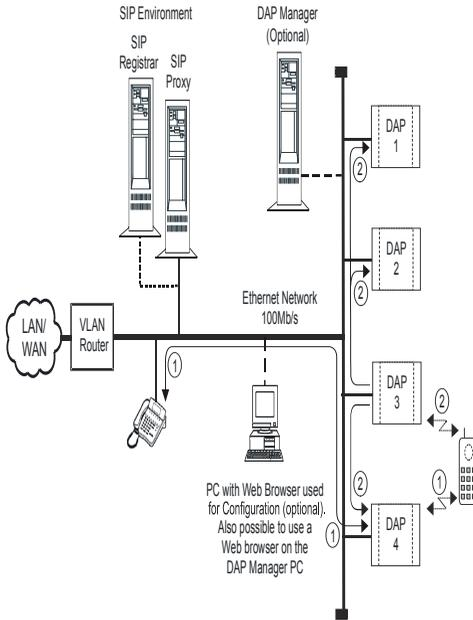

Figure 2-8 Handover action started.
However, handset 1500 moves from DAP 4 to DAP 3. See Figure 2-8 "Handover action started." The handset searches for a better radio signal, and detects a DAP 3. It issues a request for handover to DAP 3. However, DAP 3 does not know where the existing voice connection to handset 1500 resides so it multicast (2) a request for searching previous connection to handset 1500 over the network with DAPs. DAP 4 will respond to this request because the call was initially be set up via this DAP.